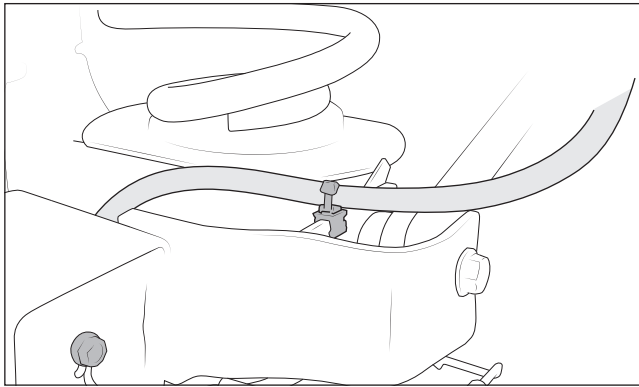

Figure 3
6. Remove the axle vent tube and clip from track bar bracket (fig. 3).